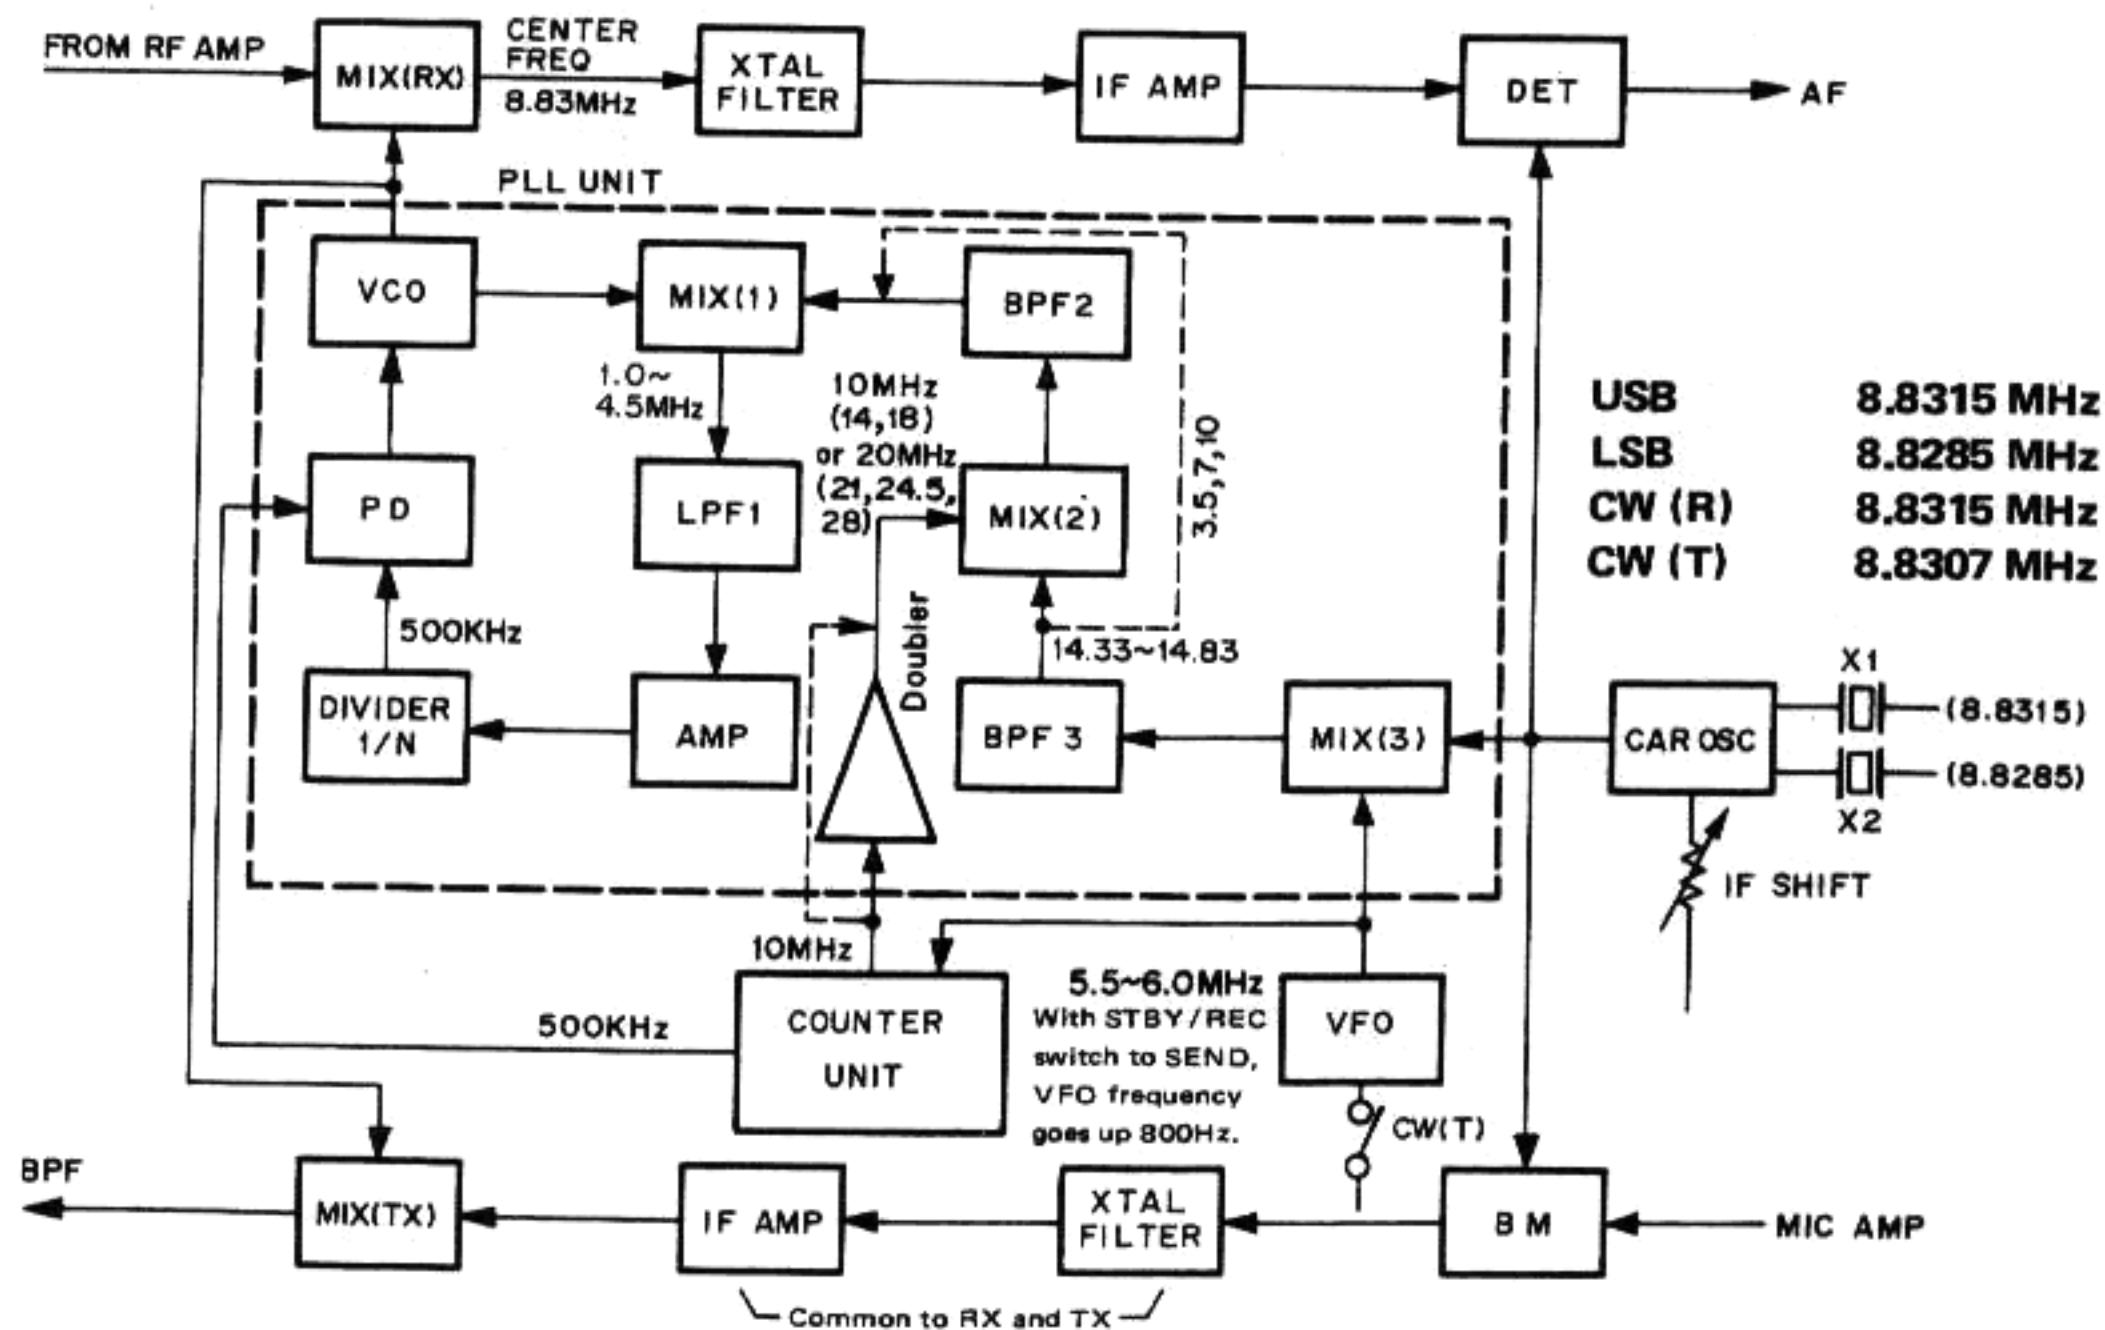

Fig. 1 TS-130 Frequency configuration
The TS-130 employs single conversion with a unique PLL circuit, as shown in Fig.1.
Referring to Fig.1, MIX (3) combines CAR and VFO signals and is operated straight through to mixer (1) on 3.5, 7 and 10 MHz. MIX (2) operates at 14 MHz and above with the output of MIX (3) to provide mixer (1) input, as shown in Table 4. MIX (1) output is filtered, amplified, shaped and divided by the programmable divider to obtain 500kHz output.
The CAR oscillator contains one oscillator and two crystals for LSB, USB and CW operation. The oscillator frequency in each mode is listed in Fig. 1. Oscillator frequency can be varied by the IF SHIFT control during reception.